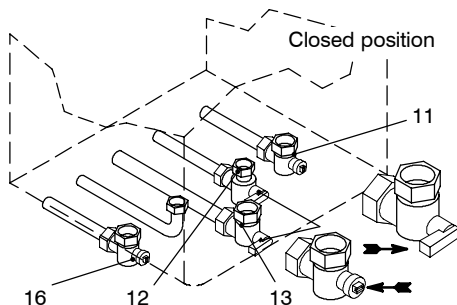

Fig. 9.3
- 1 Turn off the d.c.w. inlet isolating valve (12 in Fig. 9.3) and turn on the hot water taps and any drain cocks.
- 1 Close the c.h. isolating valves (11 and 16 in Fig. 9.3).